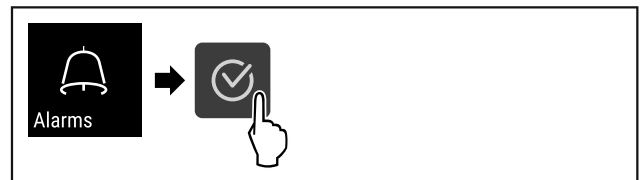

Fig. 120
- ▶ Complete steps (see Fig. 120) .